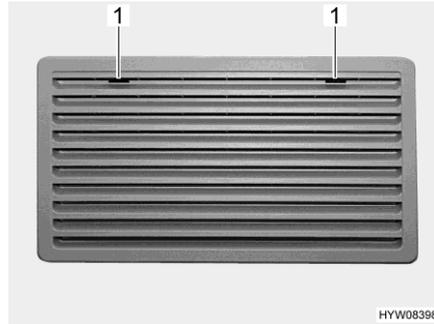
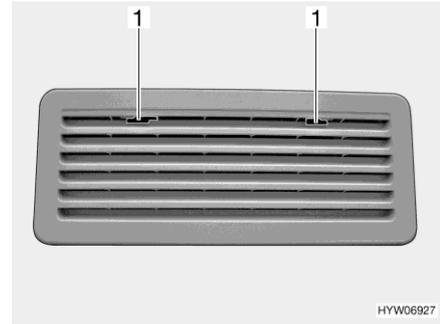

Fig. 245 Refrigerator ventilation grill
Fig. 246 Refrigerator ventilation grill
- Move the locking device (Fig. 245,1 or Fig. 246,1) to the middle.